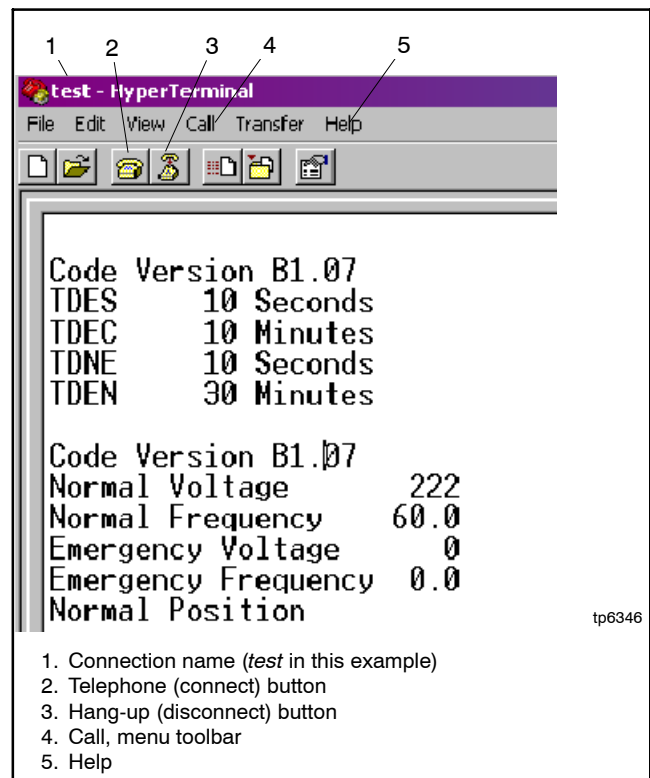

Figure 5-8 Typical Hyper Terminal Screen
5. To connect to the ATS, select Call→ Call from the menubar or click on the telephone button. See Figure 5-8. When the connection is established, data similar to that shown in Figure 5-8 will begin to appear on the screen. New data appears every 30 seconds or so.
6. To disconnect, select Call→ Disconnect or click on the hang-up button on the toolbar. See Figure 5-8.
The data shown in HyperTerminal alternates between two sets. See Figure 5-8.